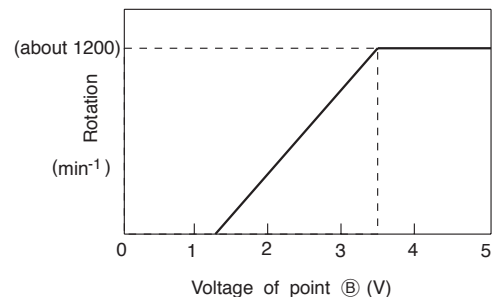

Fig. 5-3
- This pulse changes to analog voltage by R751 and C751 and it is applied to the fan motor as instruction voltage number of rotations. The relationship between the voltage of point ① and number of rotations becomes as shown in Fig.5-3. (The gap may arise depending on the condition of unit.)
- The feedback pulse of number of rotation is outputted from the fan motor and input to microcomputer pin ④⑭. The frequency of this pulse is 12/60 of the number of rotations. (Ex:  $1000\text{min}^{-1} \times 12/60 = 200\text{Hz}$ ) The microcomputer observes this frequency and to make it as the instruction number of rotation all the time, adjusts the output pulse width of pin ④⑩.